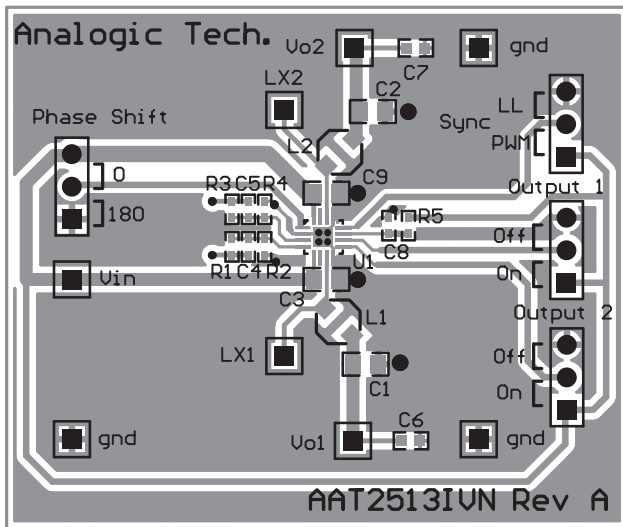

Figure 3: AAT2513 Evaluation Board Top Side Layout.
The proper placement of the input capacitor (C3 and C9) can be seen in the evaluation board layout in Figures 3 and 4. Since decoupling must be as close to the input pins as possible it is necessary to use two decoupling capacitors, one for each converter.
1. Due to the pin placement of V_{IN} for both converters, proper decoupling is not possible with just one input capacitor. The input capacitors C3 and C9 should connect as closely as possible to the respective VIN and GND as shown in Figure 3.